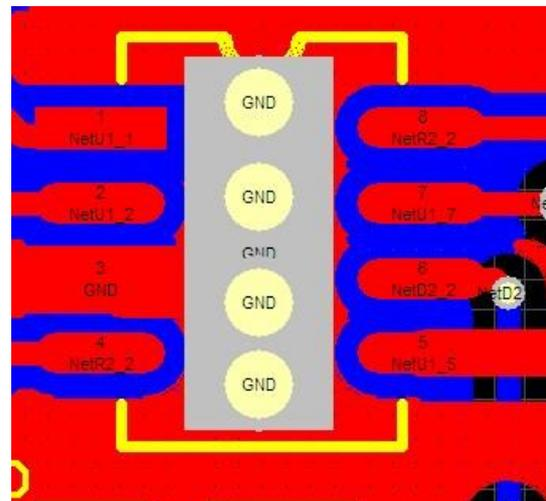

Figure 3
Another effective way to improve the heat dissipation ability of charger is to placing via to the internal or back layer of PC board, as figure 3 illustrates, place a 2.5*6.5mm pad as the heat sink of SLM6600(S), and then place 4 cooling holes with 1.2mm diameter and 1.6mm hole spacing on the pad. Solder should be injected into the cooling holes from the back layer of PC board to ensure that the bottom heat sink of SLM6600(S) is effectively connected to the cooling pad.